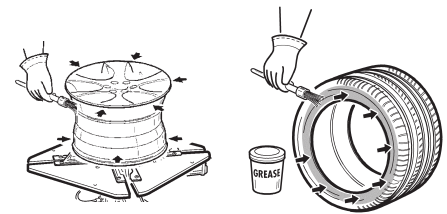

Fig. 3
- Press the pedal ref. **1** (fig. 2) to move the operating arm away from the working position. Remove the tyre manually (fig. 3).